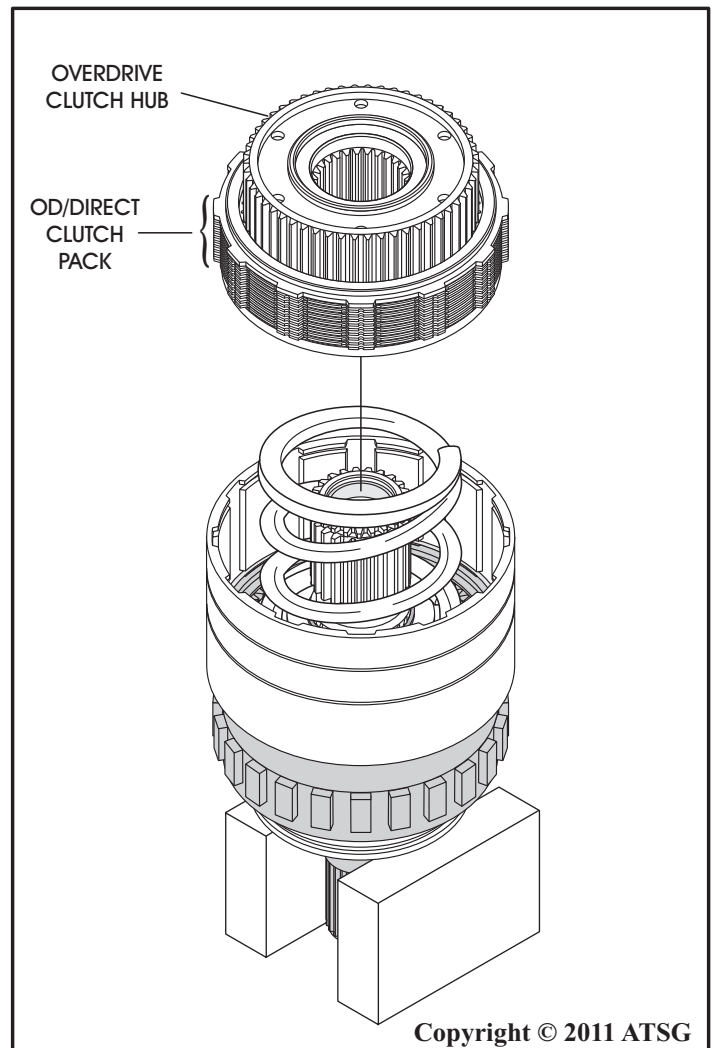

Figure 158
24. Remove the geartrain assembly from the press and place on work bench on a set of blocks, as shown in Figure 158.
25. Remove the overdrive clutch hub and overdrive direct clutch pack as an assembly, as shown in Figure 158.